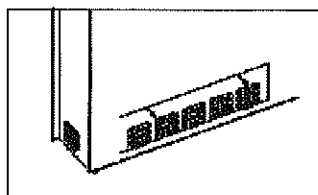
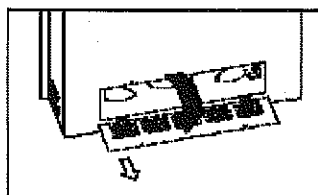
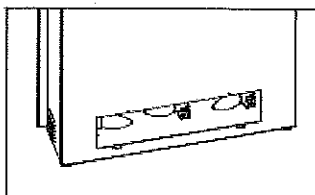

Fig.5
Fig.6
Fig.7
- Remove 2 screws on the bulb panel (See Fig.5). Fold and remove the bulb panel (See Fig.6). You can see three 40W light bulbs in the firebox (See Fig.7).